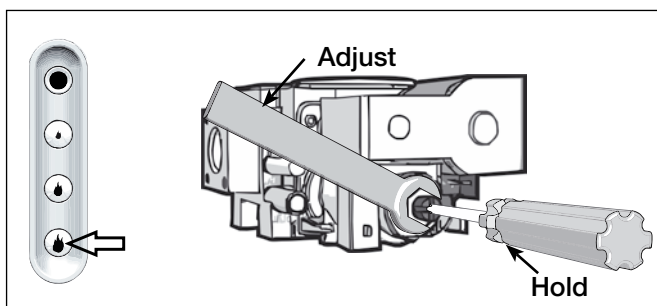

FIG 28
- Switch the control buttons to 'High flame' position. Wait for heater to switch to 'BOOST' setting (time delay on start up). Retain screwdriver in position and using a spanner adjust the outer nut on the control to give a high pressure reading (refer to specification tables on page 8 & 9). **(Turn clockwise to increase pressure and anticlockwise to decrease pressure)**. Refer **FIG 28**.